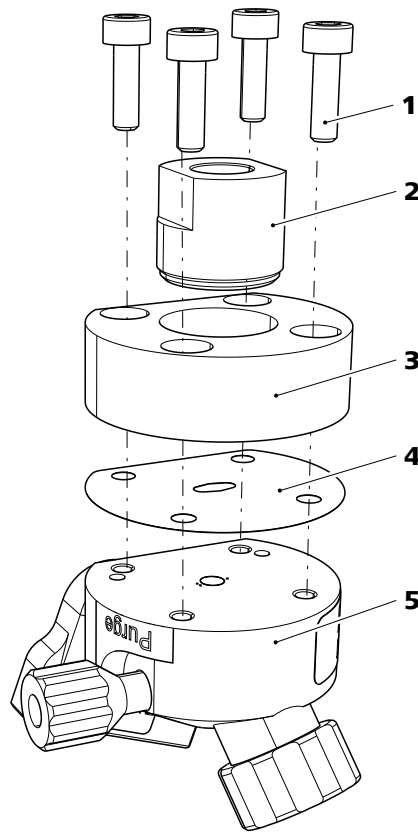

Figure 3 Disassembling the measuring cell
- Hold the measuring part in your hand as shown in *Figure 3, page 16*.